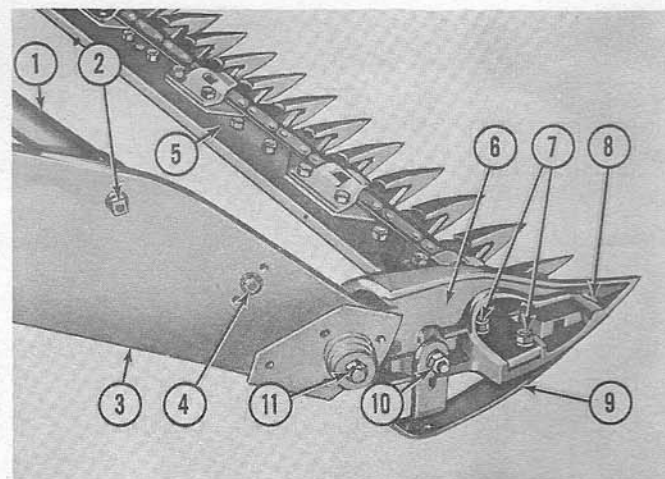

Figure 32
A Swathboard and a Grass Stick are available to mount on the end of the cutter bar, Figure 32, for cutting clean edges.
Attach the swathboard (3), Figure 32, to the outer shoe assembly, using one 1/2" x 2-3/4" drilled carriage bolt (11), flat washer, spring, flat washer, nut and cotter pin.
Attach the grass stick (1), Figure 32, to the swathboard, using one 5/16" x 1-1/4" carriage bolt (2), one 5/16" x 2-1/2" carriage bolt (4), and two flat washers, lock washers, and nuts.